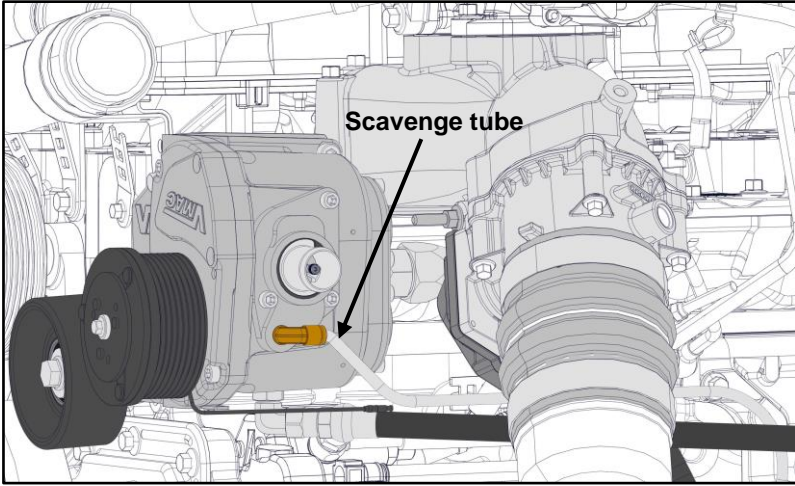

Figure 3.9 – Scavenge tube
- Connect one end of the 1/4" PTFE tube to the matching fitting on the top of the compressor (Figure 3.9).